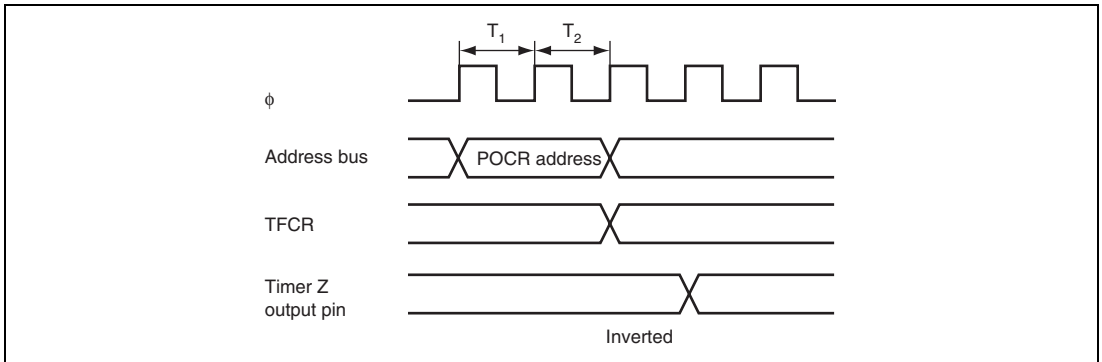

Figure 14.47 Example of Output Inverse Timing of Timer Z by Writing to POCR
4. Output Inverse Timing by POCR: The output level can be inverted by inverting the POLD, POLC, and POLB bits in POCR in PWM mode. Figure 14.47 shows the timing.